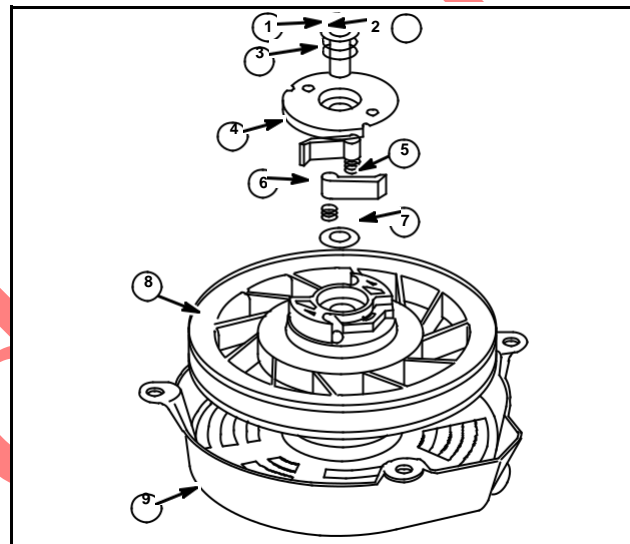

Fig. 43
6. Remove starter housing (9) from support tool while holding rewind starter retainer and starter housing.
8. Lift off retainer (4), by disassembling starter pin (1), steel washer (2), torsion spring (3), dog (6), and dog spring (5). Remove starter pawls and springs.
9. Lift off pulley and spring assembly (8). Note plastic washer on pulley (7), Fig. 43.